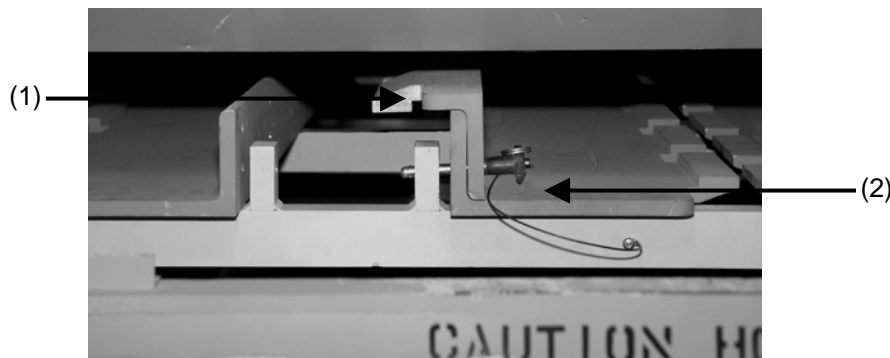

Figure 2-31. Detent rails nested and stored.
2. Nest narrow rail (1) inside wide rail (2) in all three sets (Fig. 2-31).